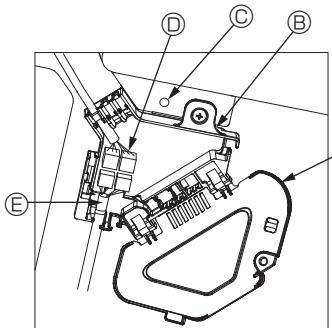
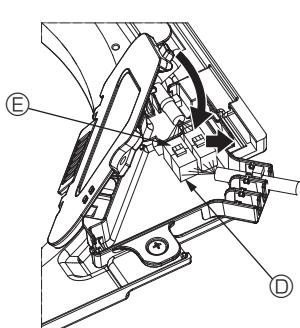

Fig. 10-8
Fig. 10-9
- ① Remove the one screw securing the connector box cover, and then open the cover.
- ② Securely connect the junction wire connector of the vane motor and the panel vane motor wire connector in the connector box. (Fig. 10-8)
- ③ Close the connector box cover.
- When closing the connector box cover, slide the cover in the direction indicated by the arrow and make sure that the projection is firmly inserted. (Fig. 10-9)